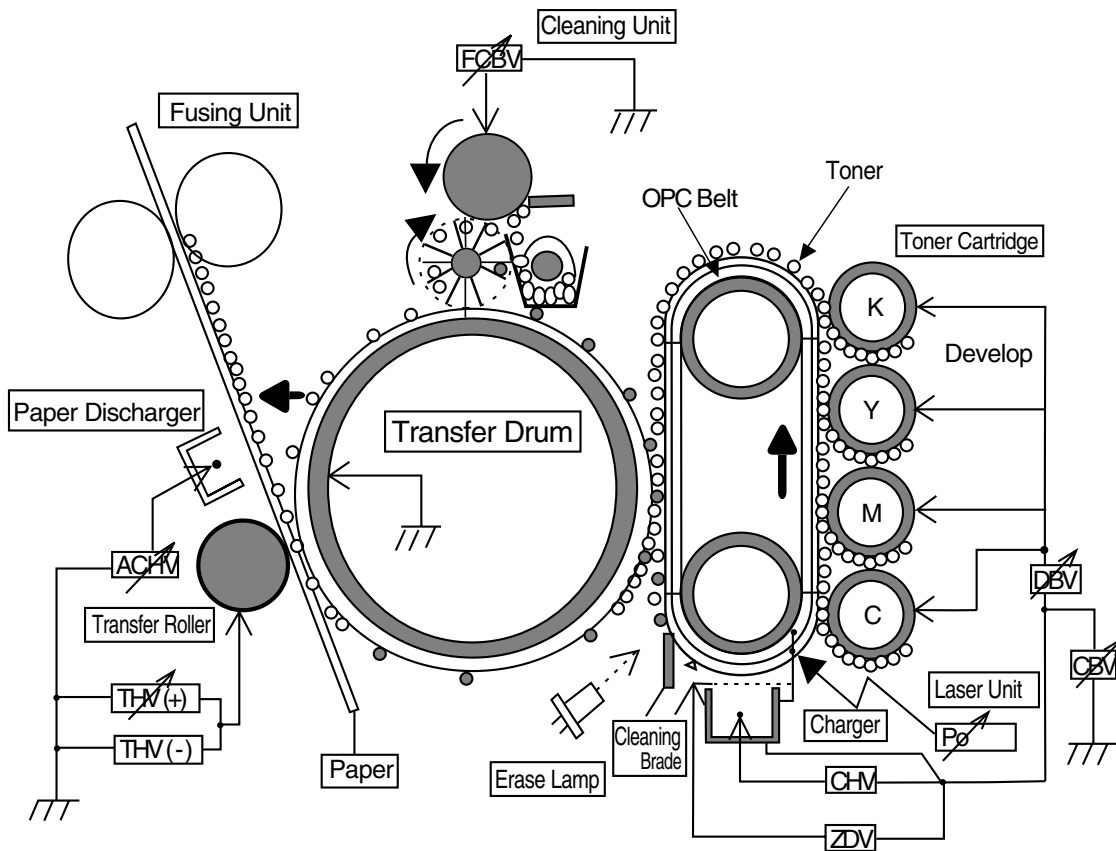

Fig. 4-9
- (1) Process of Print System (See Fig.4-9.)
- i) The OPC belt is biased to the voltage -CBV(V) by the power supply CBV.
- iii) The developer roller of the toner cartridges is biased to -DBV(V) by the power supply DBV.